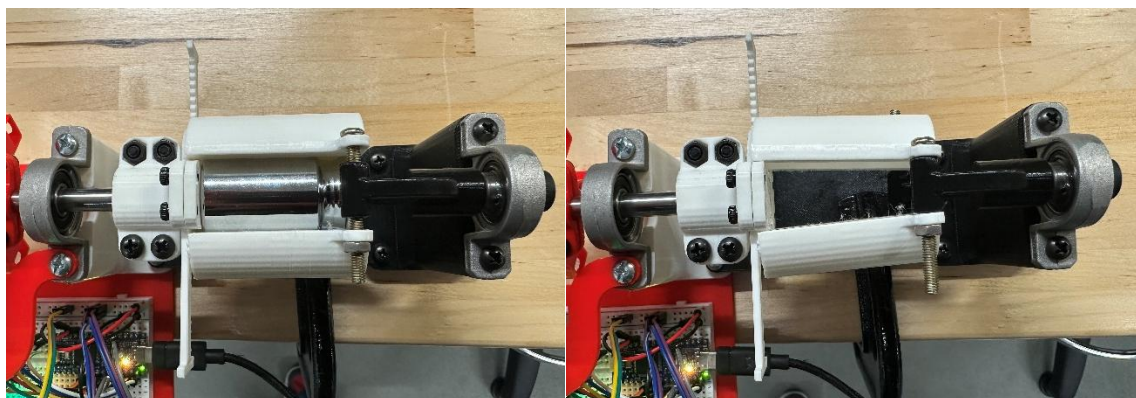

Figure 9: Object clamp. Configurations for loaded (left) and unloaded (right) are shown.
If no sample is to be secured, the nuts on the right end of the clamp should be screwed all the way down to close the clamp over the shaft bracket. Note that this will cause the brackets to bend; this is normal and does not damage the clamp. This is shown in Figure 9 (right).
Round objects, such as that of Figure 9 (left), are easiest to secure due to the divots in the brackets, which align the object with the shaft axis. However, any object could be mounted, even transversely to the mount. Refer to Section 2.3 for size restrictions.
4. Slot the object in from above, with the gap facing vertical like in Figure 9.